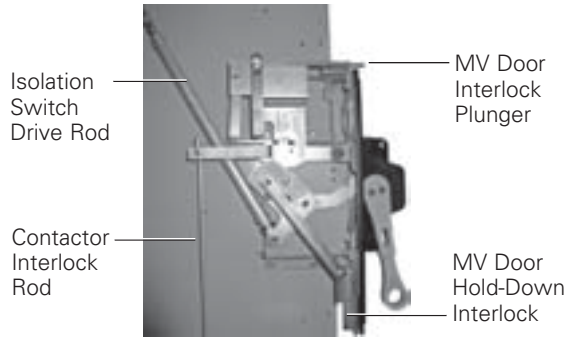

Figure 8. Handle Mechanism with Contactor and Door Interlocks
- An additional interlock prevents closing of the switch unless the medium voltage door is closed (see MV door interlock plunger in **Figure 8**). On controllers that require two structures (reduced voltage starters, for example), the door to the second structure will also be interlocked with the switch-operating mechanism. The second door must be closed before the main door is closed. Both doors must be closed before the switch operator can be moved to the closed position
Mechanical and electrical interlocks are provided to ensure that the non-loadbreak isolation switch cannot be opened or closed unless the main contactor is de-energized. (See contactor interlock rod in **Figure 8**.) Do not attempt to force the switch-operating mechanism with the main contactor closed. The handle mechanism is designed to fail before the isolation switch can be opened with the main contactor closed.